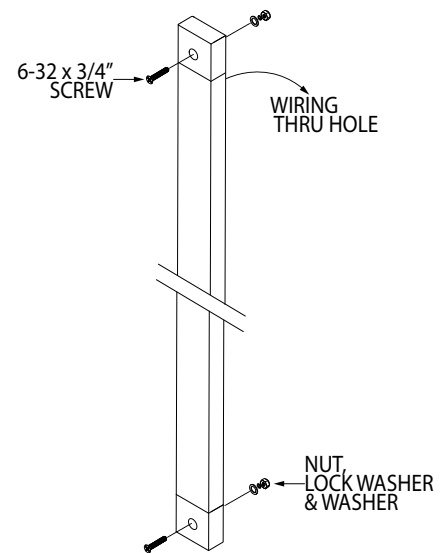

Figure 5.1 Tape Switch Installation
7. Secure the Tape Switch with the two 6-32 x 3/4" screws, washer, lock-washer, and nut on the other side. (See Figure 5.1)